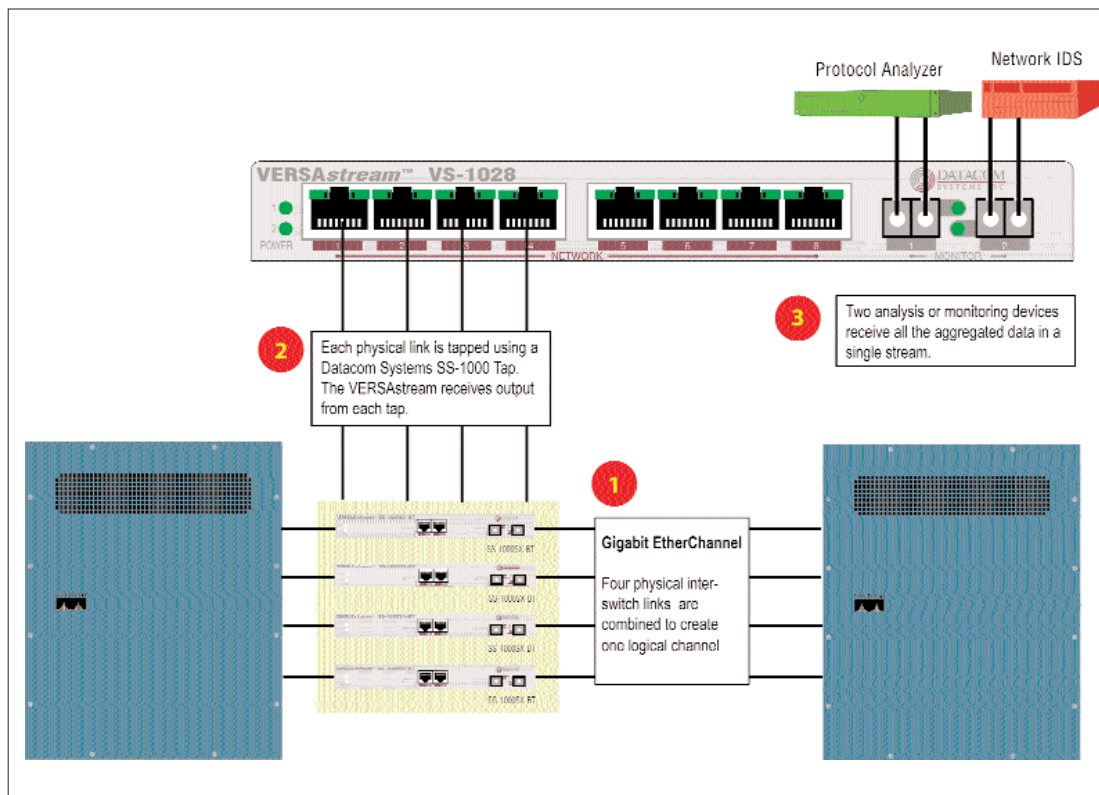
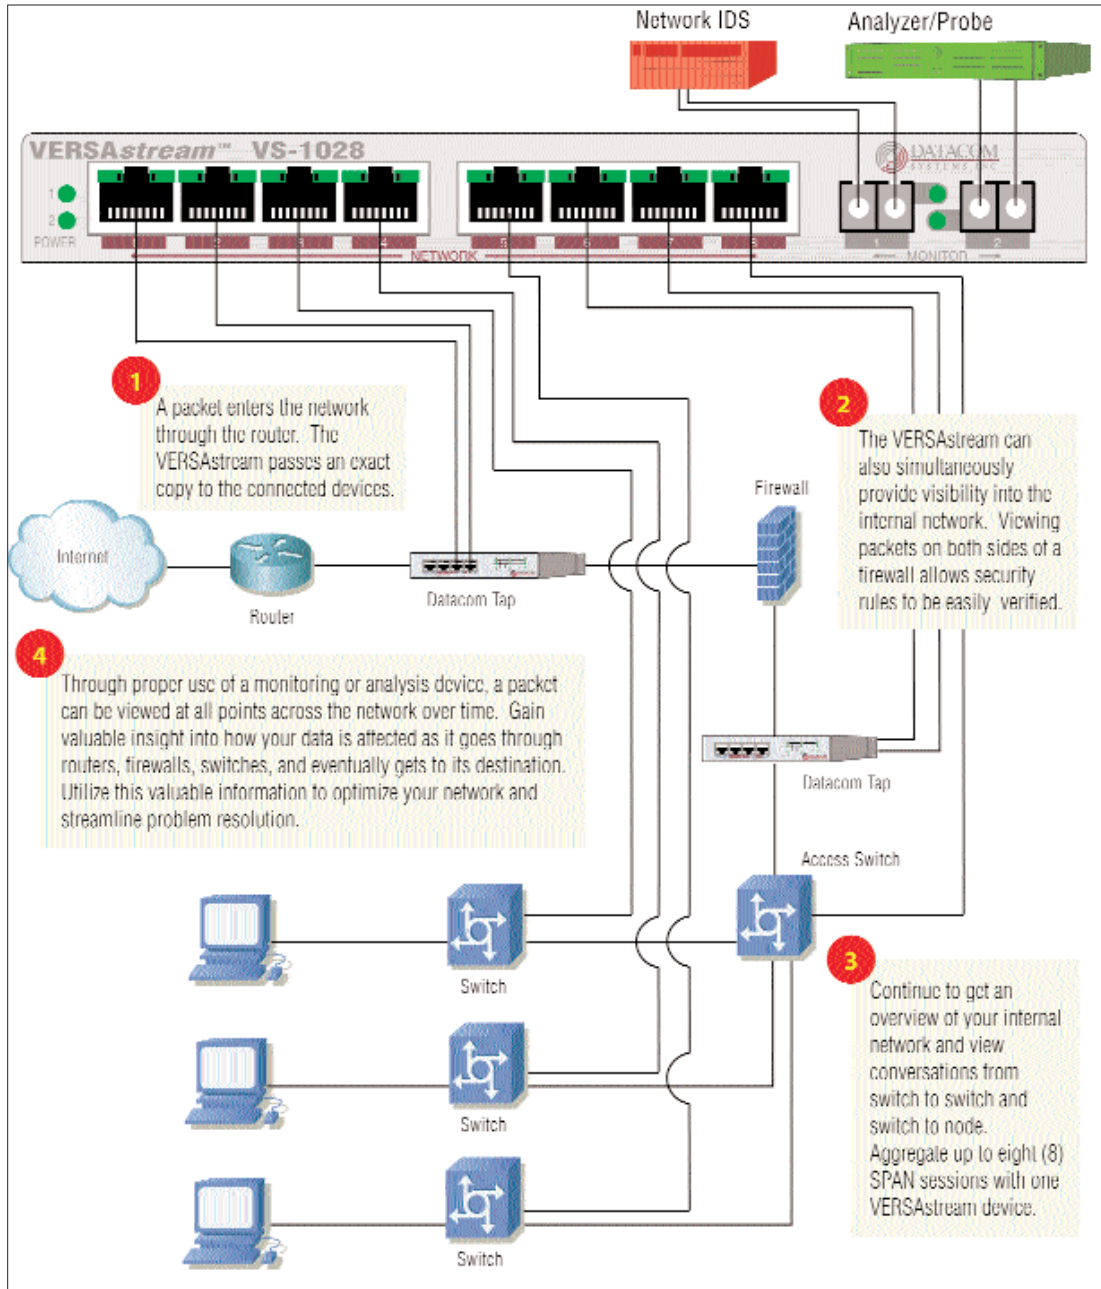

Figure 23 - VS-1028 Gigabit EtherChannel Application
Figure 25 - VS-1028 SPAN and In-Line Application
**Application & Hardware Installation** — Figure 23 through Figure 25 depict typical application installations of VERSAstream™ Multi-link aggregator/regenerator series models.
**Gigabit Ether Channel Application** — shown in Figure 23, focuses on monitoring and analysis of a Gigabit Ether Channel Distribution Network. This VS-1028 is similar to other VERSAstream™ Multi-link series installations:
To connect the VERSAstream™ VS-1028 Multi-link Series aggregator/regenerator, refer to **Figure 23** and follow these steps:
***VS-1028 SPAN and In-Line Application*** — shown in **Figure 25**, focuses on a typical VERSAstream™ VS-1028 Multi-Link Aggregator deployed to gain complete visibility into your SPAN and In-Line environments combining traffic from up to 8 different segments and outputting the aggregated data to two connected monitoring devices. Monitoring or analyze with multi-segment aggregation means less deployment and maintenance costs. This VS-1028 is similar to other VERSAstream™ Multi-link series installations:
To connect the VERSAstream™ VS-1028 Multi-link Series aggregator/regenerator, refer to **Figure 25** and follow these steps: